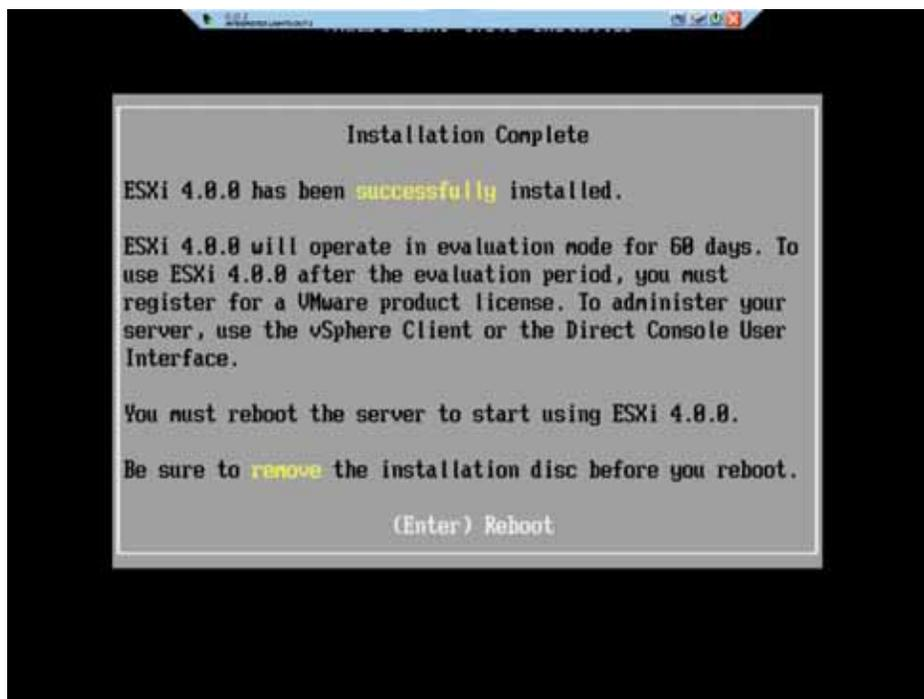

Figure 7 Installation Complete
Step 7 When the correct boot disk is confirmed, the installation runs to completion. The Installation Complete dialog is displayed. Figure 7 on page 151 shows this dialog.